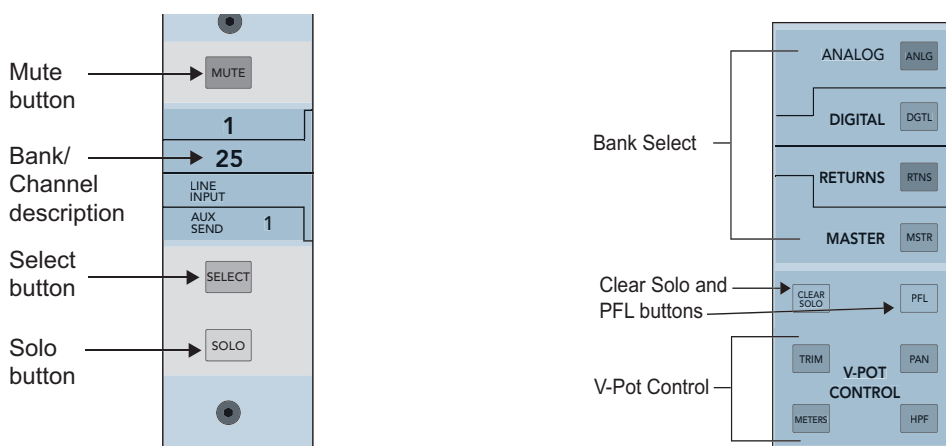

Figure 2-2 Top of channel strip (left); Bank Select, Clear Solo, PFL, V-Pot control (right)
2. Press the **ANLG** bank select button (right of Figure 2-2).
5. Activate the **PFL** button (right of Figure 2-2).
17. Press **HPF** in the V-POT CONTROL area (Figure 2-2).